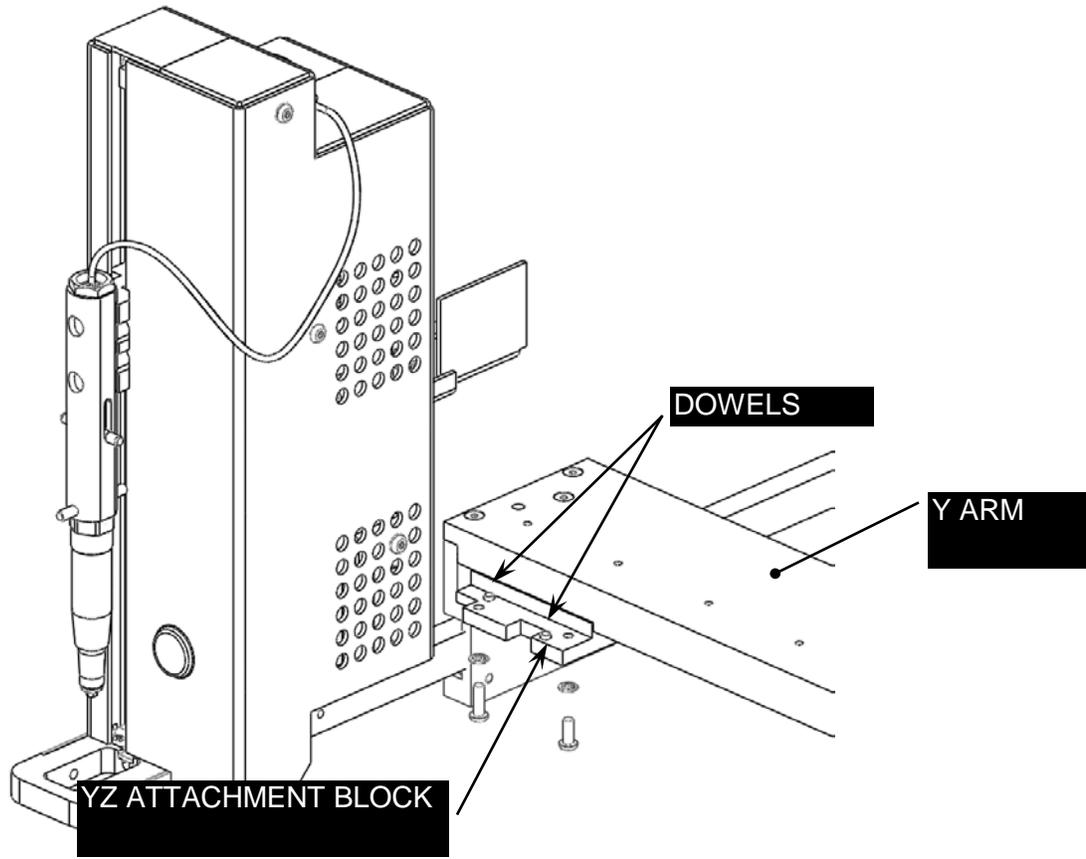

Figure 7-4: Removing the Z/Pipette Assembly
4. Remove the two screws that attach the assembly to the YZ attachment block (Figure 7-4).